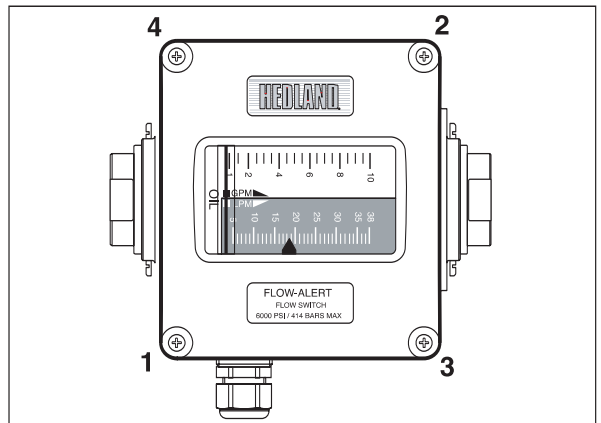

Figure 7. Cover Screw Tightening Sequence
6. Install the cover gasket and front cover and secure with screws. To properly seat the cover gasket, tighten cover screws in a criss-cross pattern as shown in Figure 7.
6. Install the front cover and gasket. To properly seat the cover gasket, tighten cover screws in a criss-cross pattern as shown in Figure 7 on page 6.
9. Install the front cover and gasket. To properly seat the cover gasket, tighten cover screws in a criss-cross pattern as shown in Figure 7 on page 6.
17. Install the front cover and gasket. To properly seat the cover gasket, tighten cover screws in a criss-cross pattern as shown in Figure 7 on page 6.